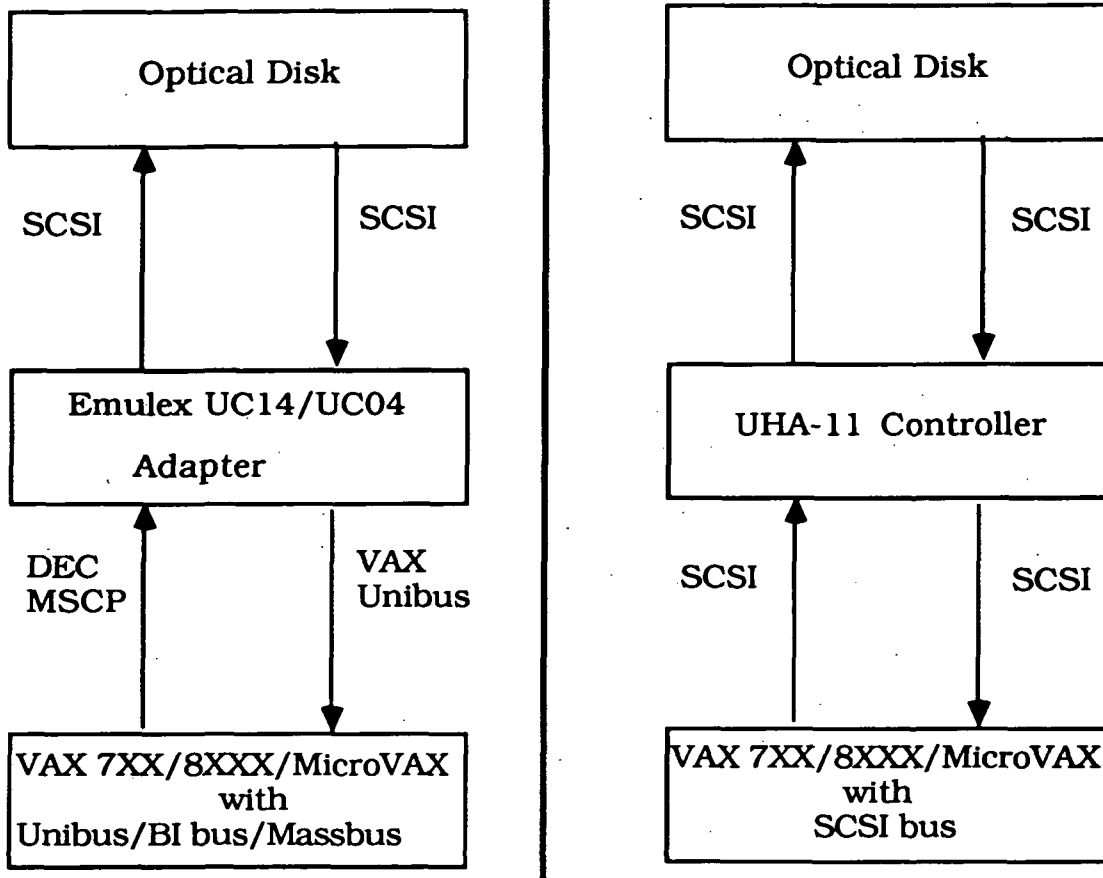

Figure 1. Hardware configuration for VAX/MicroVAX and optical disk interface.
2. As shown in Figure 1, the host adapter, which interfaces between the VAX and the optical disk drive, must either